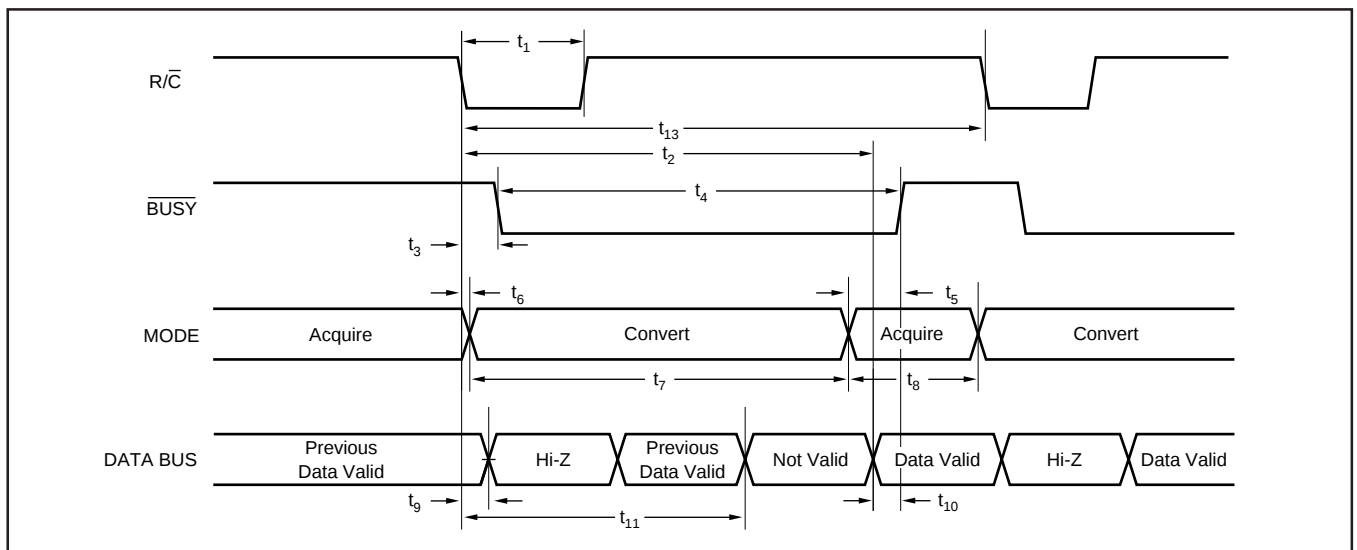

FIGURE 3. Conversion Timing with Outputs Enabled after Conversion ($\overline{CS}$ Tied LOW).
Table II for a summary of $\overline{CS}$, $\overline{R/\overline{C}}$, and $\overline{BUSY}$ states and Figures 3 through 5 for timing diagrams.
NOTE: (1) See Figures 3 and 4 for constraints on data valid from conversion "n-1".
After conversion 'n' is completed and the output registers have been updated, $\overline{BUSY}$ (pin 26) will go HIGH. Valid data from conversion 'n' will be available on D15-D0 (pins 6-13 and 15-22). $\overline{BUSY}$ going HIGH can be used to latch the data. Refer to Table IV and Figures 3 to 5 for timing specifications.
After conversion 'n' has been initiated, valid data from conversion 'n – 1' can be read and will be valid up to $7\mu s$ after the start of conversion 'n'. Do not attempt to read data from $7\mu s$ after the start of conversion 'n' until $\overline{BUSY}$ (pin 26) goes HIGH; this may result in reading invalid data. Refer to Table IV and Figures 3 to 5 for timing specifications.
The number of control lines can be reduced by tying $\overline{CS}$ LOW while using $R/\overline{C}$ to initiate conversions and activate the output mode of the converter (see Figure 3).